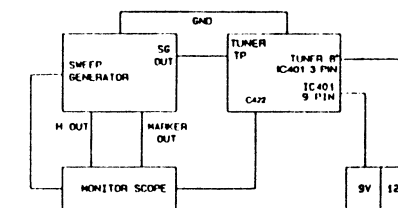

Fig. 13 Composition for VIF Adjustment
3. Connect sweep generator output to tuner TP within the tuner unit. (Fig. 13)